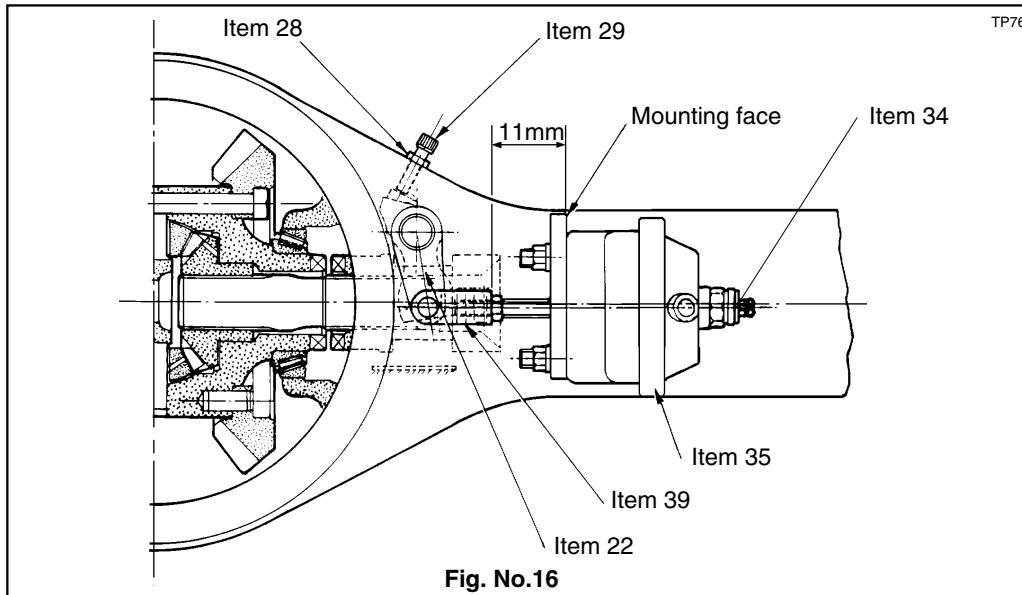

Fig. No.16
19.8 Screw yoke onto push rod until distance from air chamber mounting face to push rod is 11mm - see fig. no.16.